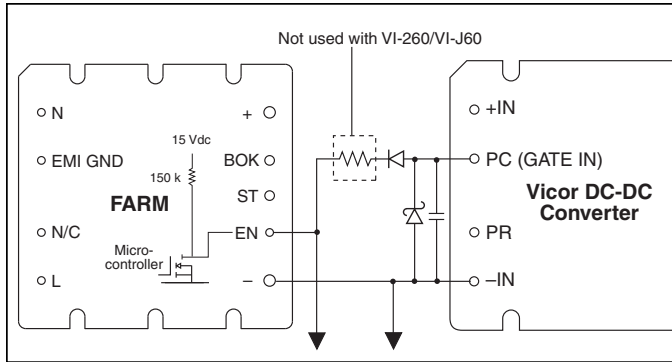

Figure 10 — Enable (EN) function
**Enable (EN) Pin.** (see Fig. 10) The Enable pin must be connected to the PC or Gate-In pin of all converter modules to disable the converters during power up. Otherwise, the